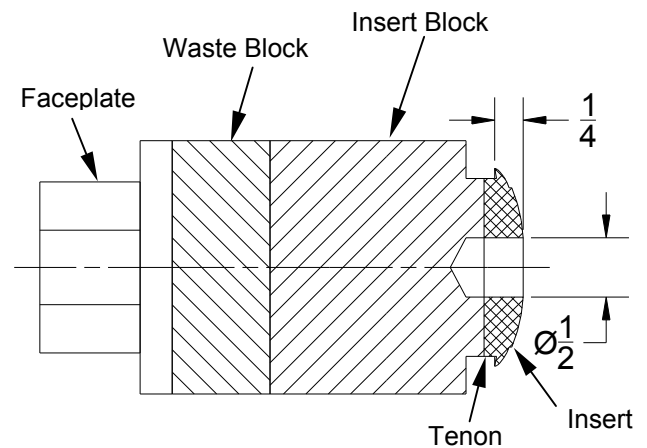

Figure 4: Insert Turning
- Using a parting tool, cut the insert free, leaving approximately 1/8" of the tenon extending past the lip. See Figure 4.